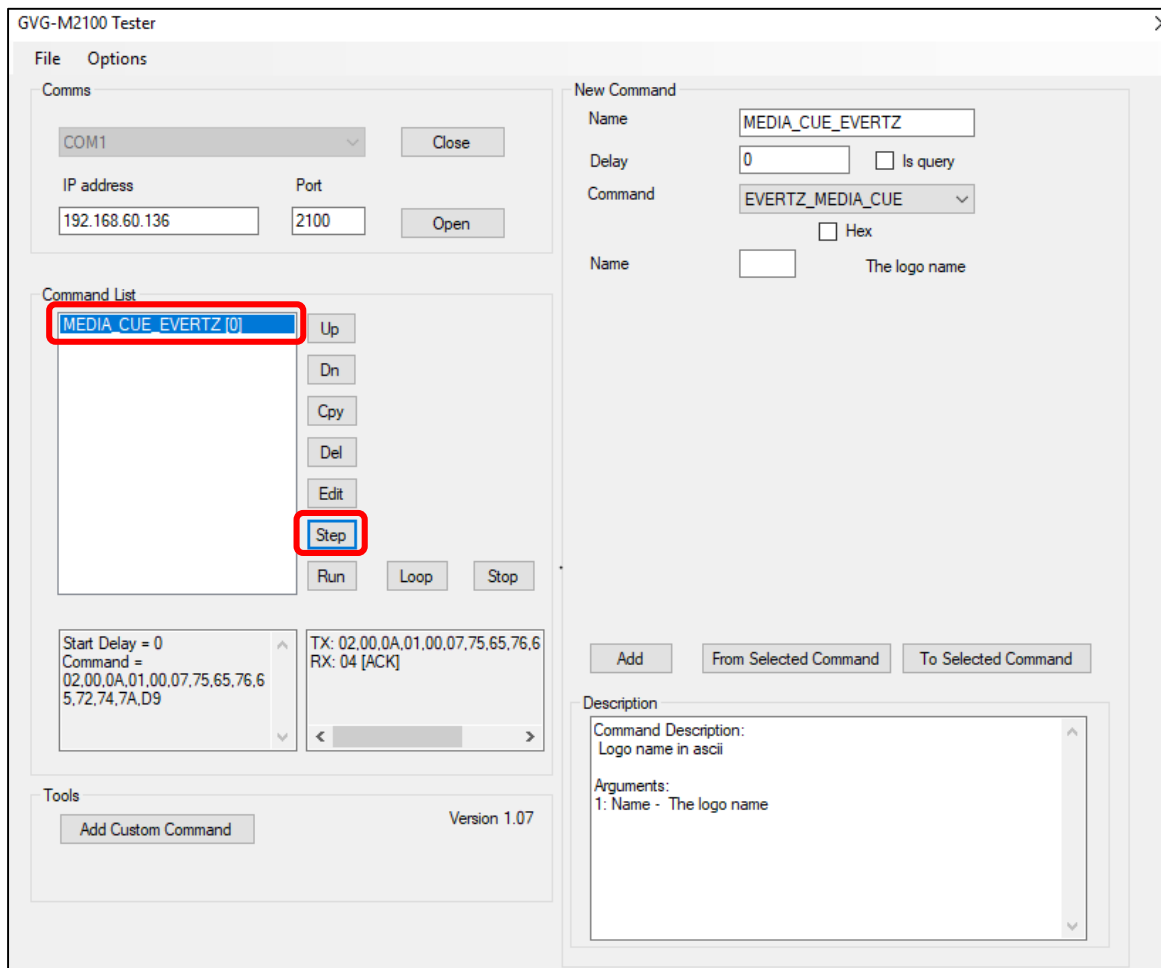

Figure 5-8: M2100 – Activate Command to Display Logo Through PVW
- 2) Select the 'EVERTZ_MEDIA_CUE' in the 'Comand List' and press 'Step' button to activate the logo, as Figure 5-8.